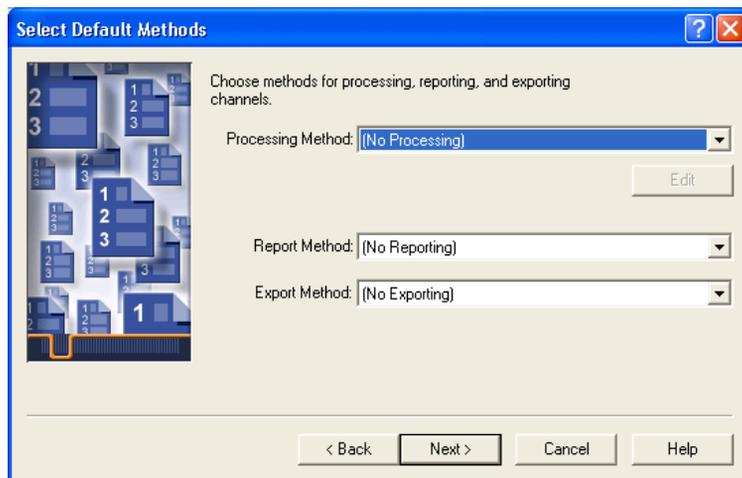

Figure 3-12 New Method Set Wizard, Select Default Methods Page
4. Select the instrument method you created from the Instrument Method list, then click **Next**. The Select Default Methods page appears (Figure 3-12).